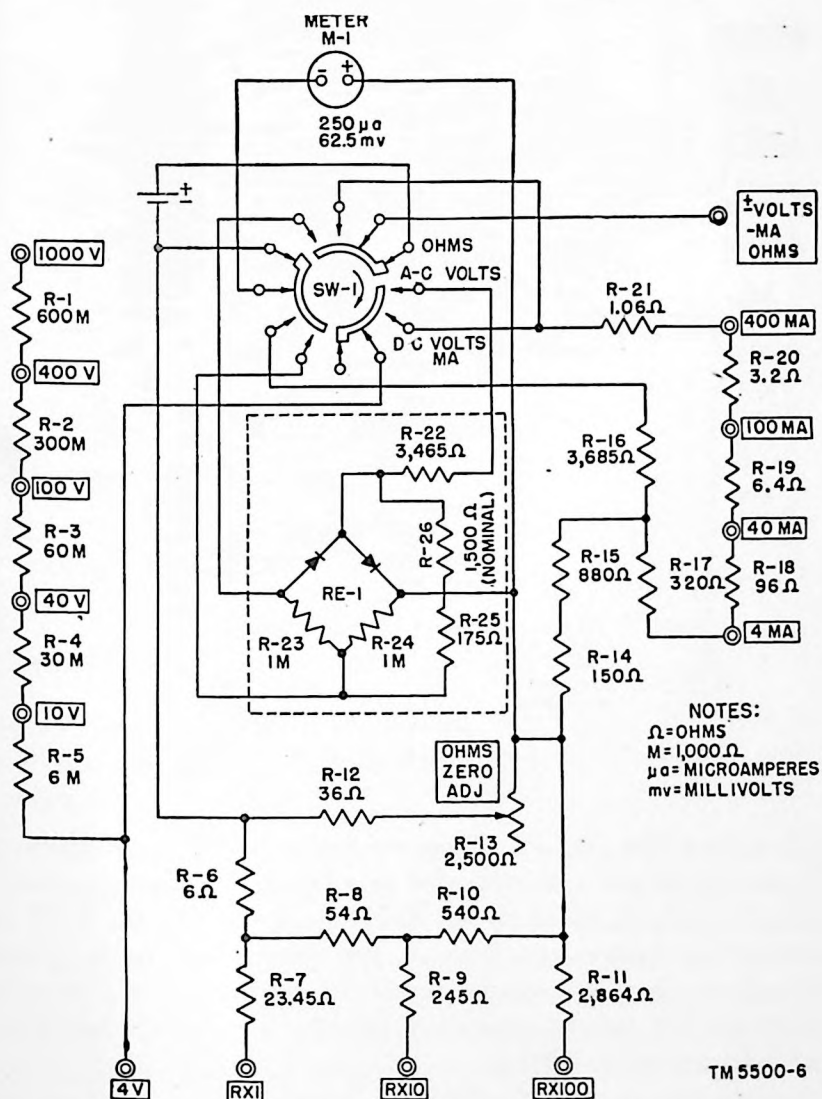

Figure 6. Multimeter TS-297/U, schematic diagram.
29. General Theory (fig. 6)
- (1) Complete schematic diagram (fig. 6).